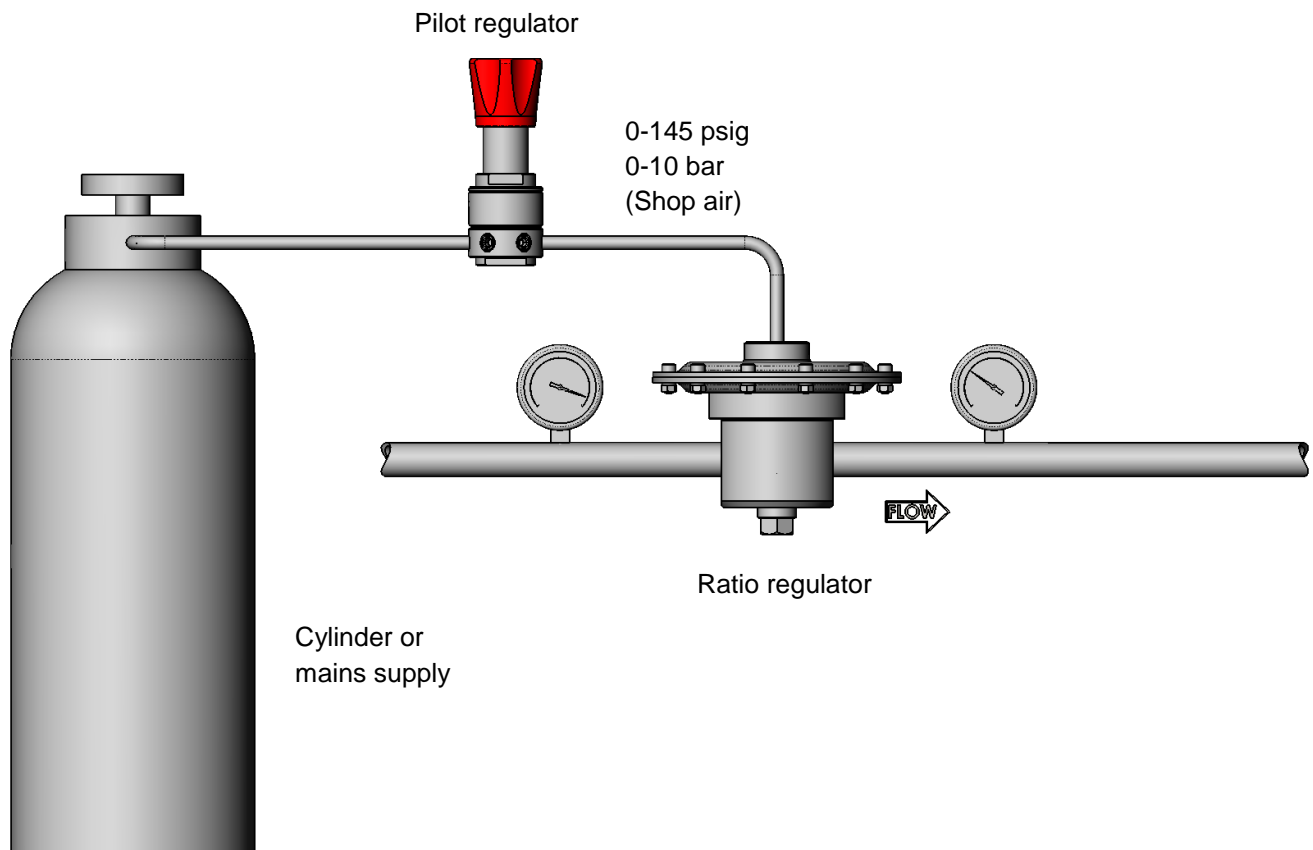

Fig 1
- The preferred mounting position of the regulator is horizontal with the dome facing upwards per Fig 1. Alternative mounting positions may increase the risk of component wear.
- **External dome control.** In this setup the dome pressure is supplied from an independent source, such as a cylinder or main supply (Fig 1). The best performance will be achieved by allowing a small flow to continuously pass through the pilot regulator.